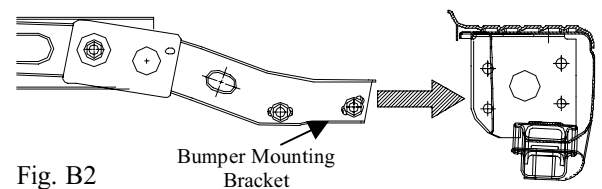

Fig. B2
-  2. Carefully remove bumper and place to the side for later re-installation. (Fig. B2)